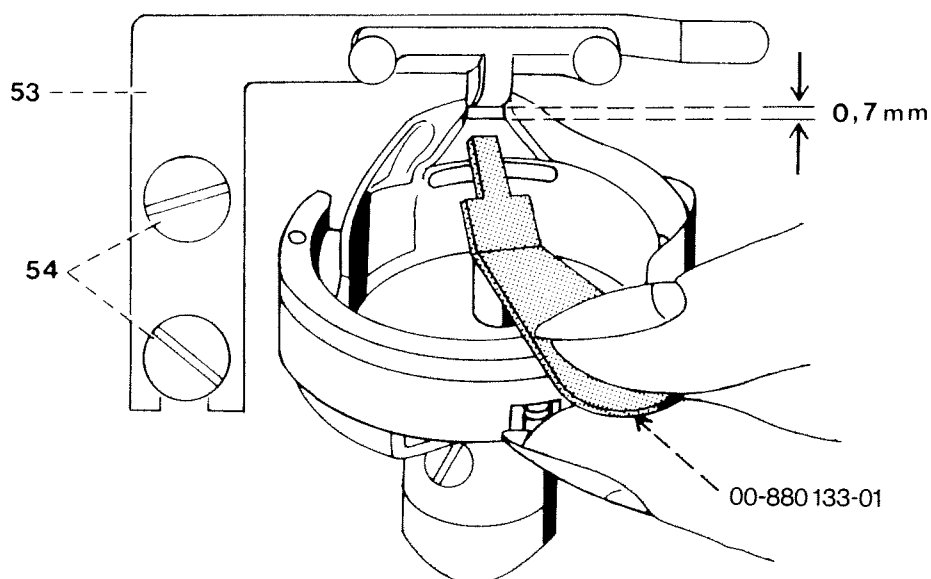

Fig. 14
- It must be possible to insert the clearance gauge 00-880 133-01 easily, but without play, between the position finger and the bottom of the groove in the bobbin case base (see Fig. 14).